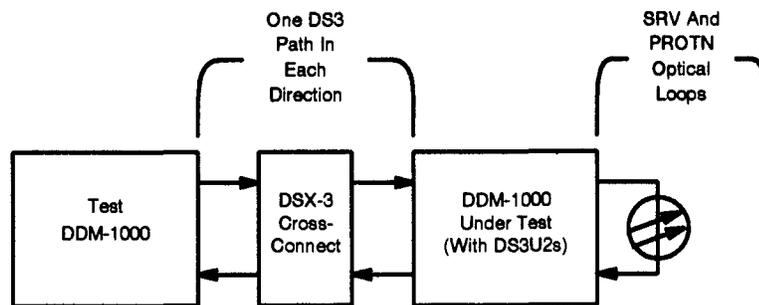

Figure 1. Test Setup with Test DDM-1000
11. Connect the system as shown in **Figure 1**. Connect only one DS3 path in each direction. Loop both the **SRV** and **PROTN OLIUS** back on themselves.